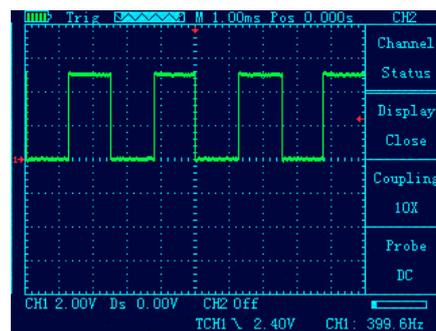

Figure 2-7
- Press "CH2" → "Show Off", set CH2 channel waveforms are not displayed. As Figure 2-7